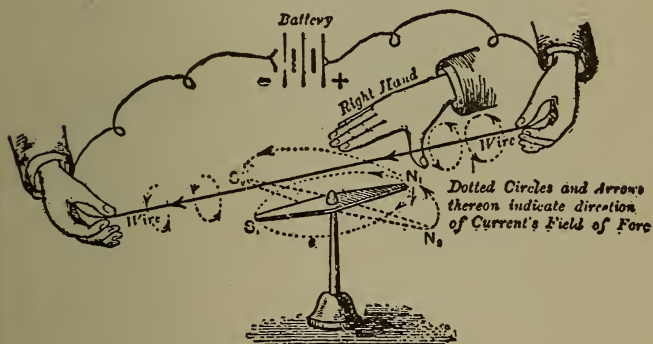

Fig. 92. Action of Current on a Magnet.
Fig. 92 shows the magnetic whirls around the wire, and the effect of the SNOW rule. For since the current runs in the opposite direction from the rule, we should expect to find the N-end of the needle move in
*Question 7.* For what is the extra hand in Fig. 92?